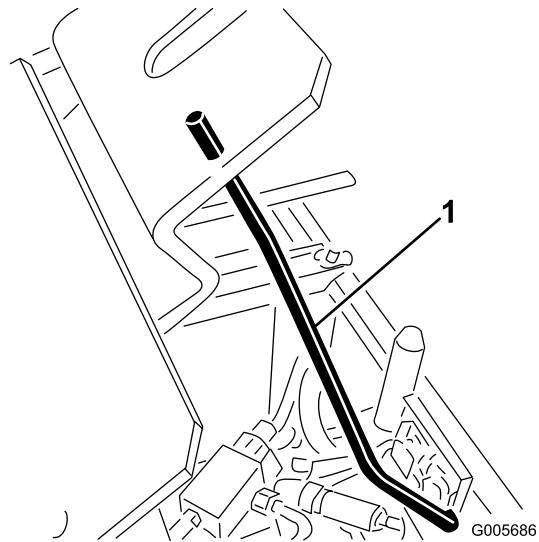

**Figure 9**
3. Mount seat and seat support to seat pivot bracket with pivot shaft and roll pin (Figure 9).
5. Mount seat and seat support to seat pivot bracket with pivot shaft and roll pin (Figure 9).